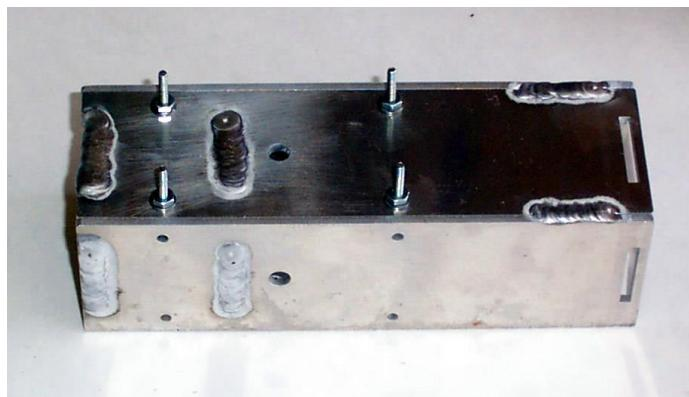

Figure 5: Motor housing mounting bolts
1. Mount 4 #4 machine screws through the base of the motor mount and fasten with a nut as shown in Figure 5.